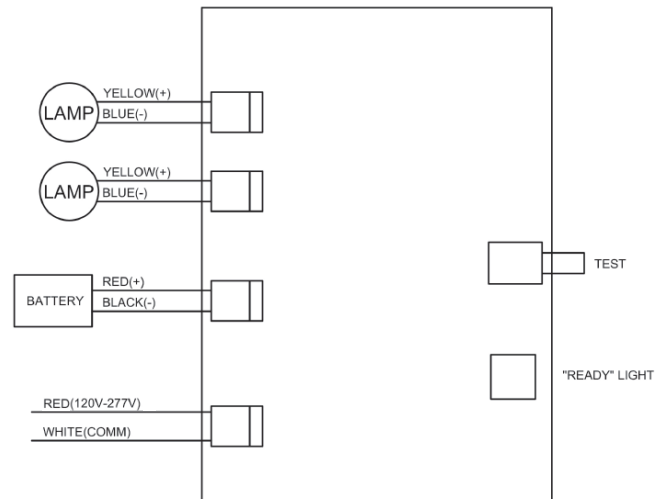

Figure 1 - Wiring Diagram
- Connect the power supply (120/277 VAC) to the input wires, using the provided wire nuts, according to the wiring diagram in Figure 1